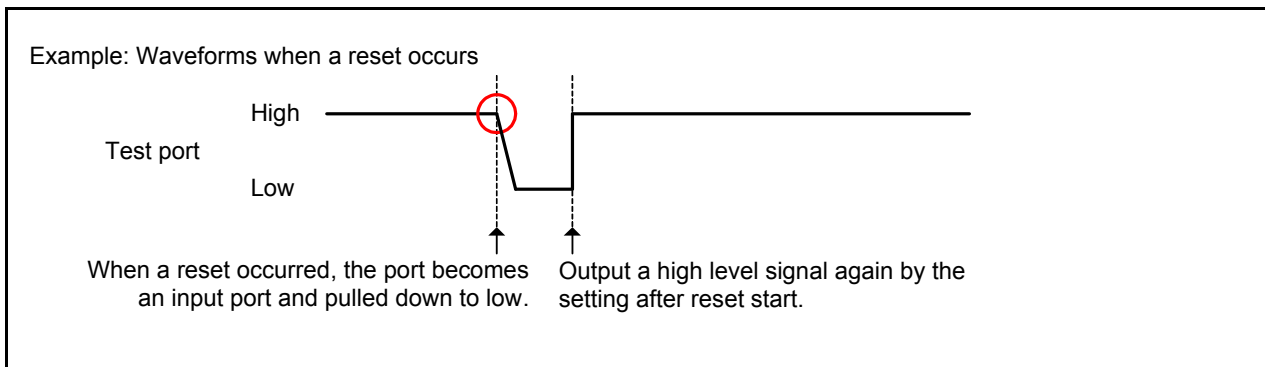

Figure 4.7 Waveform on the Test Port when a Reset Occurs
With step (3) above, check if a low pulse is output from the test port. If a low pulse is output as shown in Figure 4.7, then a reset occurred. In that case, refer to 4.6.1 Checking the Reset Source Determine Register Using an Oscilloscope to determine the reset source.